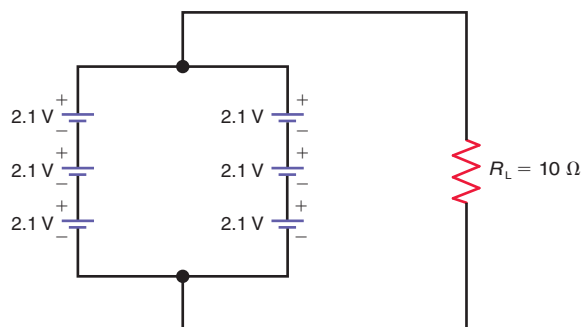

Figure 10-28
10.4 Repeat Prob. 10-1 for the circuit in Fig. 10-28.